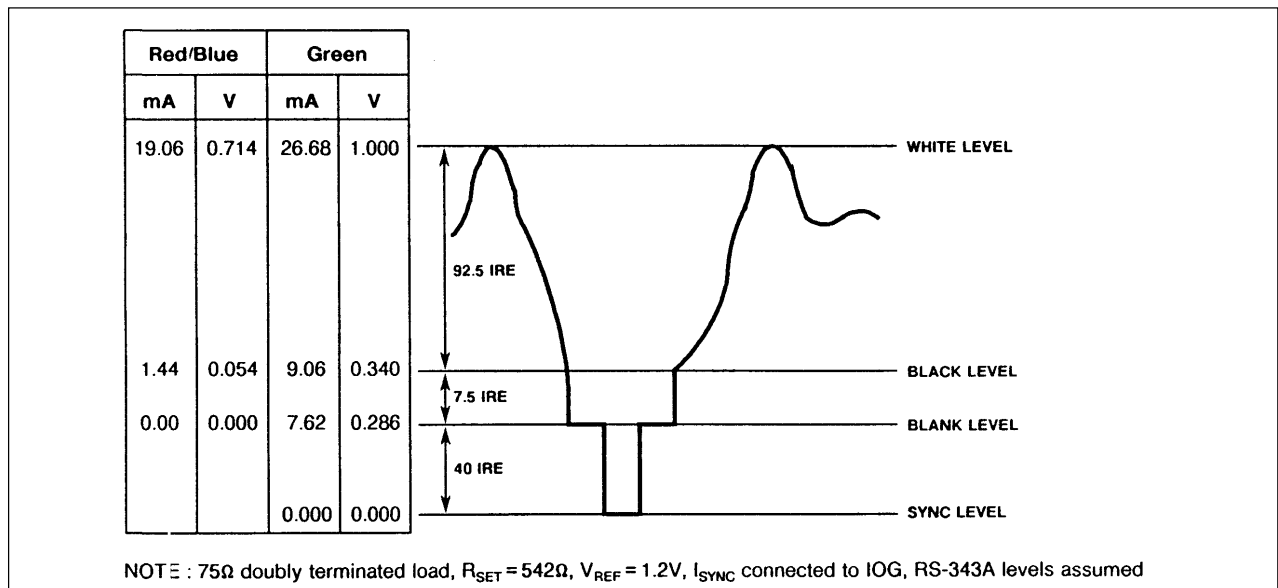

Fig.3 Composite video output waveform
SYNC and BLANK are latched on the rising edge of the clock to maintain synchronisation with the colour data. These inputs add appropriately weighted currents to the analog outputs, producing the specific output levels required for video applications as shown in Fig. 3. Table 1 details how the SYNC, BLANK, and REFWHITE inputs modify the output levels.
FS ADJUST	Full scale adjust control. A resistor (R _{SET}) connected between this pin and AGND controls the magnitude of the full video signal (Fig. 3). The current flowing in the R _{SET} resistor is equal to 32 LSBs. note that the IRE relationships in Fig. 3 are maintained, regardless of the full scale output current. The relationship between R _{SET} and full scale current on IOG (assuming I _{SYNC} is connected to IOG) is: $\text{IOG (mA)} = 12082 \times \frac{V_{\text{REF}} \text{ (V)}}{R_{\text{SET}} \text{ (}\Omega\text{)}} \cong 387 \text{ LSBs}$ The full scale output current on IOR, IOB (mA) for a given R _{SET} is defined as: $\text{IOR, IOB (mA)} = 8624 \times \frac{V_{\text{REF}} \text{ (V)}}{R_{\text{SET}} \text{ (}\Omega\text{)}} \cong 276 \text{ LSBs}$